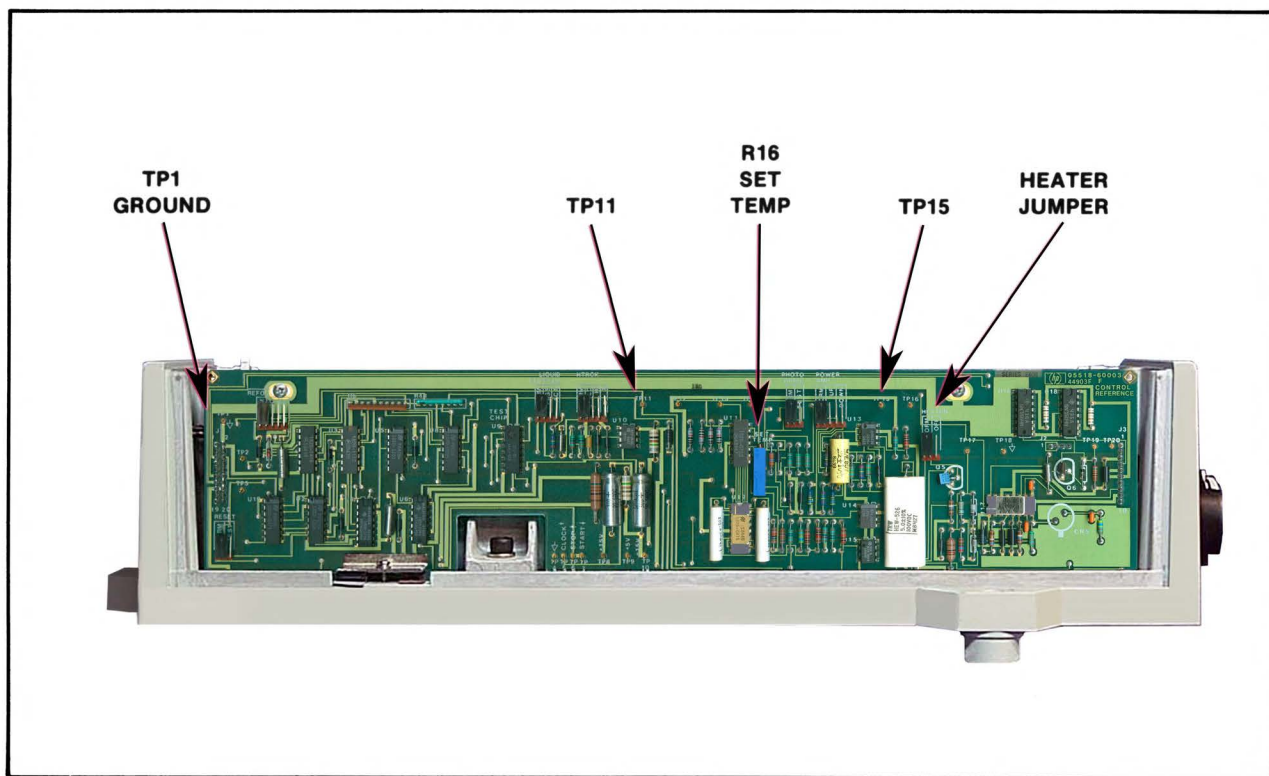

Figure 5-2. 5517A A3 Controller/Ref Board, Jumpers, Test Points, and Adjustment Locations
- d. On A3, change the HEATER jumper from NORM to OFF. See *Figure 5-2*.
- e. Apply power to the Digital Voltmeter and set its controls to the 1 volt DC range. Connect the positive lead of the Digital Voltmeter to A3TP11, connect the negative lead to A3TP1. See *Figure 5-2*.
- Connect Digital Voltmeter plus lead to A3TP15. Connect the minus lead to A3TP1. See *Figure 5-2*.
- Check that the voltage at A3TP15 equals $V_{set} \pm 1$ millivolt as calculated in step b. If not, adjust A3R16 SET TEMP (see *Figure 5-2*).